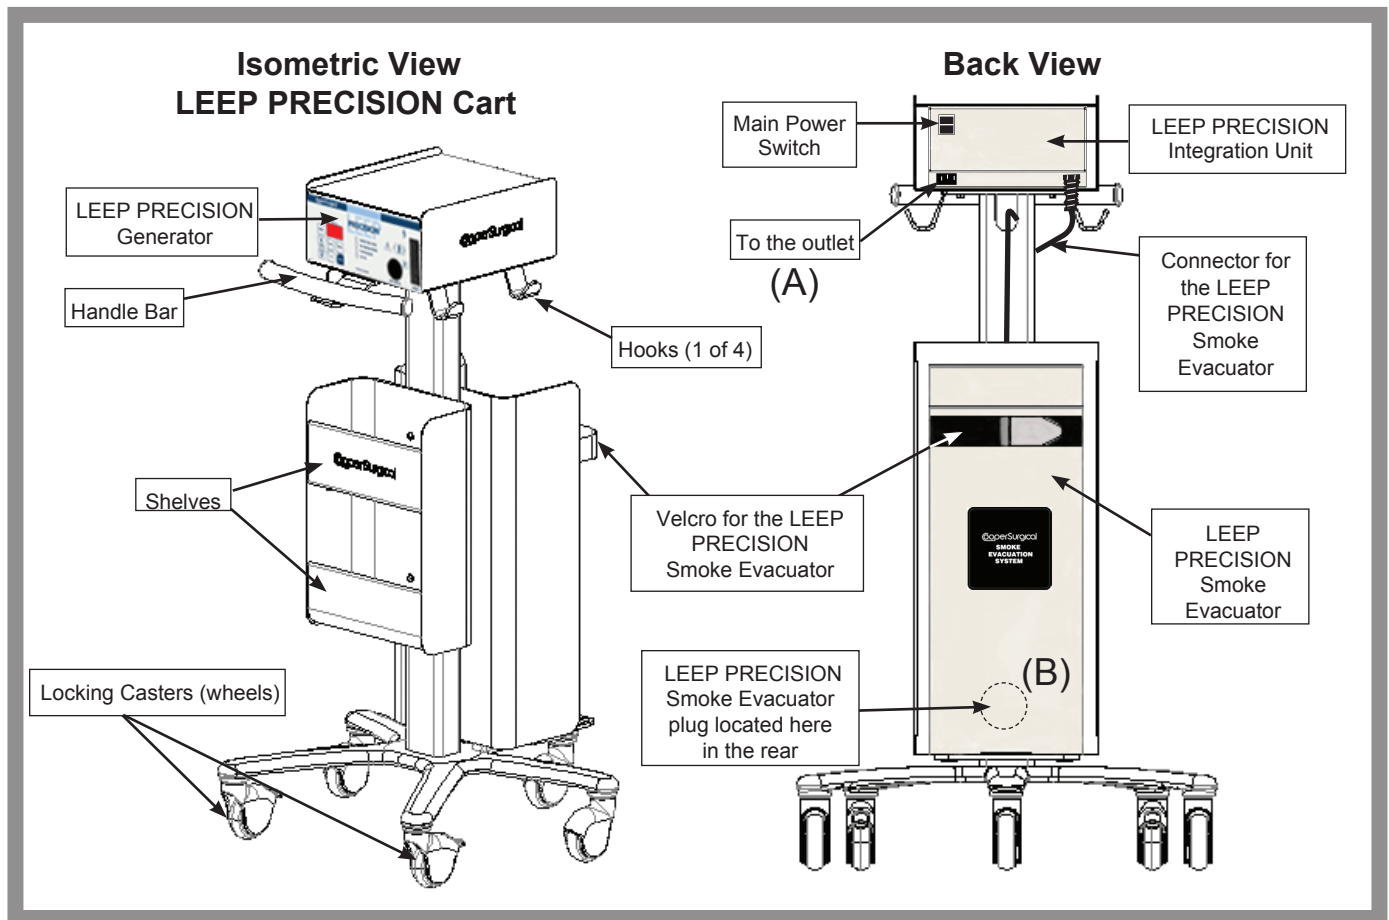

Figure 1
2. Plug in the connector [located at (B) in Figure 1] from the LEEP PRECISION Integration Unit to the rear of the LEEP PRECISION Smoke Evacuator.
Make sure the ON/OFF Switch **12** for the LEEP PRECISION Integrated System, located on the LEEP PRECISION Integration Unit, is in the OFF position ("O"). Next, attach the power cord to the receptacle **13** on the LEEP PRECISION Integration Unit and then into a hospital-grade grounded wall outlet to obtain power [refer to (A) in Figure 1].